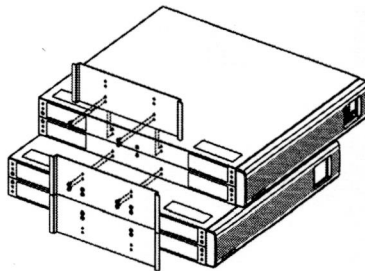

Fig. 15: Attaching Foot Brackets to the UPS
3. Position the UPS on top of the External Battery Cabinet so that the holes in the bottom of the UPS cabinet align with the extra holes in the External Battery Cabinet's stabilizing foot bracket. Secure with the four (4) #6-32 screws provided (fig. 15).
4. Attach one of the UPS's stabilizing foot brackets to the bottom of the UPS just above the joining foot bracket already installed. Use four (4) of the #6-32 screws provided (fig. 15). Make sure all of the screws on the bottom of the set are tightened securely.